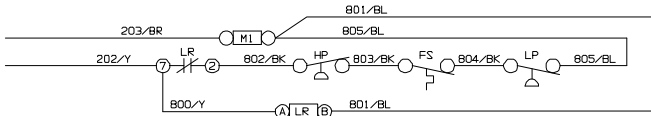

FIGURE 1 - GAS/ELECTRIC AND ELECTRIC/ELECTRIC UNIT PRESSURE SAFETY KIT WIRING DIAGRAM
- Wire 800/YEL (Supplied with kit): Connect the piggy-back to LR-7 and the other end to LR-A. See Figure 1.
- Wire 202/YEL (Existing wire in unit): Remove 202/YEL from contactor coil M1-A and connect it to the piggy-back on LR-7. See Figure 1.
- Wire 801/BLU (Supplied with kit): Connect the 1/4 inch straight quick connect end to LR-B. If an anti-short-cycle timer is installed, connect the piggy-back end to ASCT-3. If no anti-short-cycle timer is present, connect the piggy back end to M1-A (where 202/YEL used to be). See Figure 1.
- Wire 802/BLK (Supplied with kit): Connect the un-insulated end to LR-2. Route the insulated end through the hole in the condenser partition and connect to the high pressure switch. See Figure 1.
- Wire 803/BLK (Connected to the freeze stat): Connect wire 803/BLK to the high pressure switch. See Figure 1.
- Wire 804/BLK (Connected to the freeze stat): Connect wire 804/BLK to the low pressure switch. See Figure 1.
- Wire 805/BLU (Supplied with kit): Connect the insulated terminal on wire 805/BLU to the low pressure switch. Route the wire through the condenser partition into the control compartment. If an anti-short-cycle timer is installed, connect 805/BLU to 801/BLU on ASCT-3. If no anti-short-cycle timer is present, connect 805/BLU to 801/BLU on M1-A. See Figure 1.